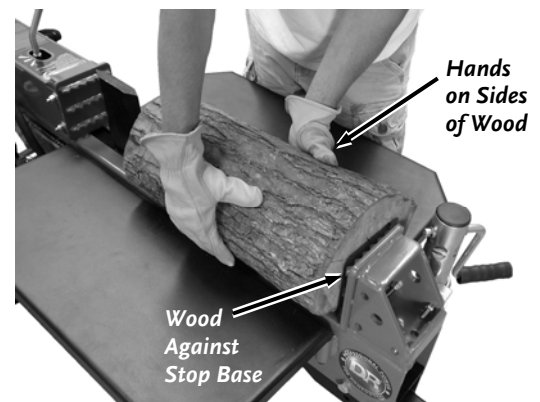

Figure 26
1. Place the log on the Log Splitter. Grasp the log on the sides near the middle of the block (*Figure 26*). Center the log, side-to-side, on the rail of the Log Splitter, making sure that one end is against the Stop Base.